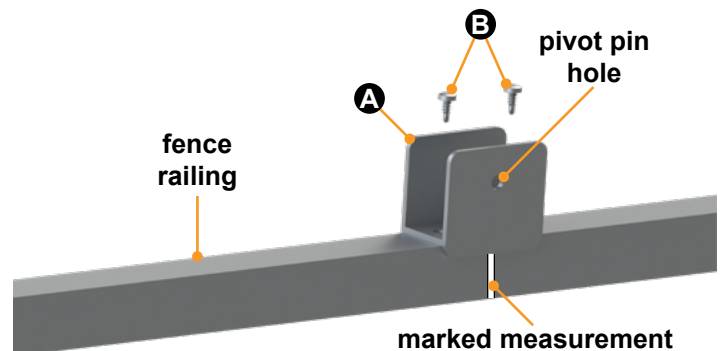

Fig.30
C. Place the two adjustable front support tube H-brackets (Fig.30A) at the previously marked locations (step 1), aligning the center of the pivot pin hole with the marked measurement (Fig.30).